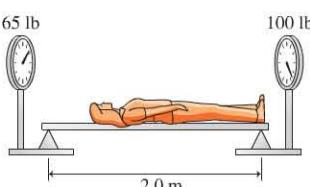

FIGURE Q8.16
- A student lies on a very light, rigid board with a scale under each end. Her feet are directly over one scale, and her body is positioned as shown in Figure Q8.16. The two scales read the values shown in the figure. What is the student's weight?
- For the student in Figure Q8.16, approximately how far from her feet is her center of gravity?